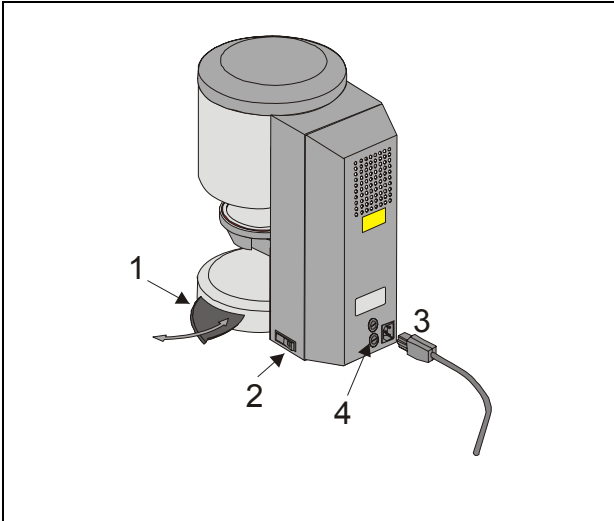

Abb. 1
- Use the supplied mains lead to connect the unit to the mains supply (Abb. 1). The connecting cable should be a hot equipment supply lead of type HO5RR-F 3G1,0 mm2. Avoid connecting to a multiple socket outlet with extension lead, because there is a risk of fire when overloaded.
If the unit is not used the lift should be retracted into the firing chamber and the unit switched off by the main switch (see Fig. 1, item 2). Closing the firing chamber protects the insulation and prevents the absorption of moisture.